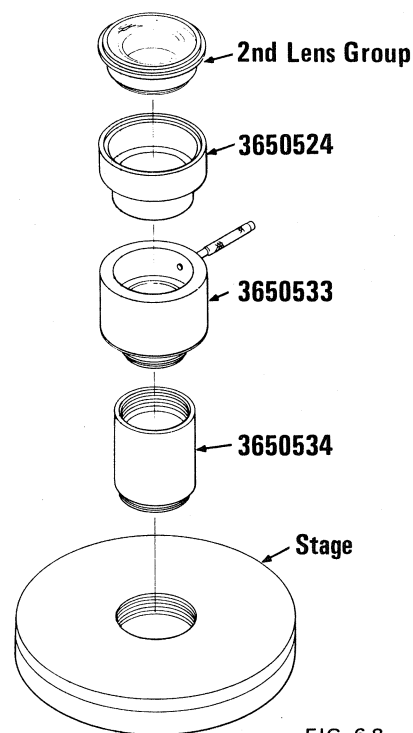

FIG. 6-8
1. Remove third lens element retaining ring (10).
- a) Assemble the tools as shown in Fig. 6-8 to the microscope stage.